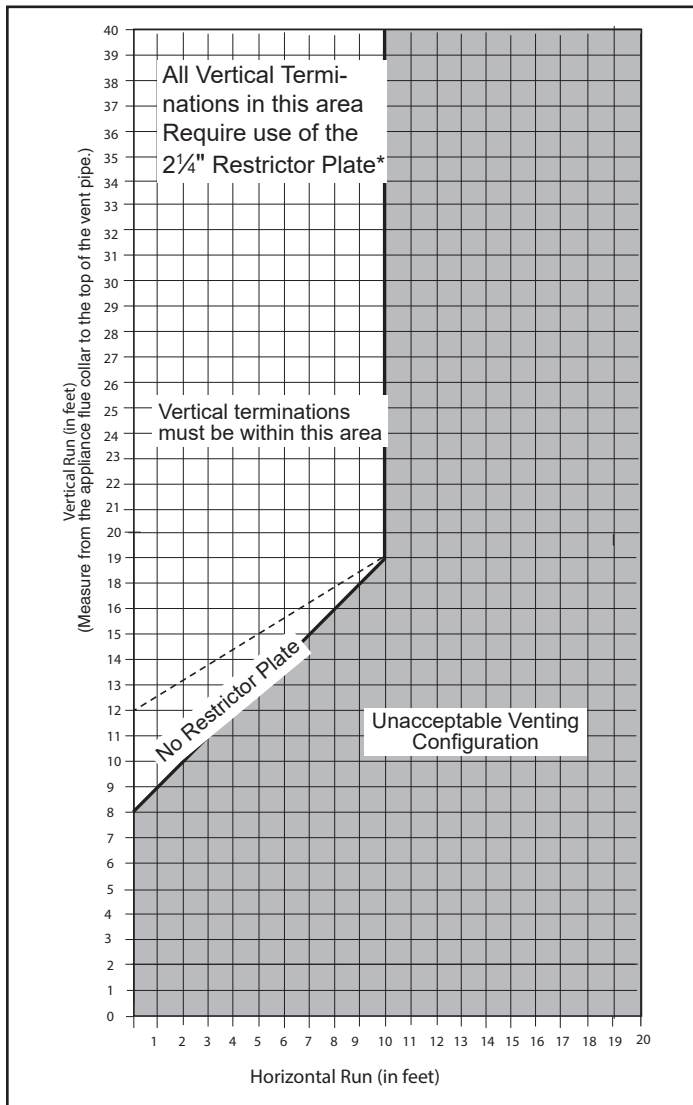
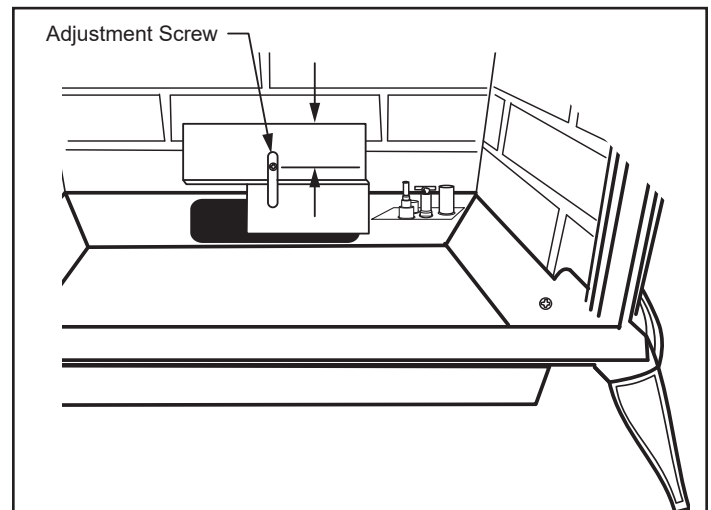
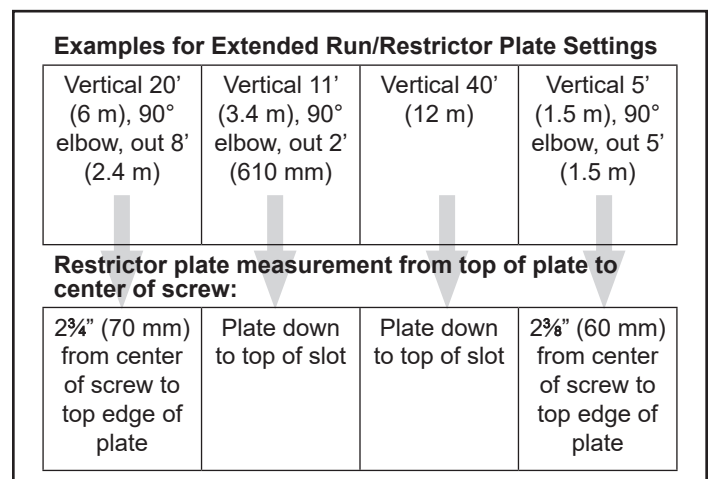

Figure 2.8 - Vertical vent termination window.
Figure 2.9 - Loosen screw to adjust restrictor plate.
Figure 2.10
A vertical vent system must terminate no less than 8' (2.44 m) and no more than 40' (12 m) above the appliance flue collar. (Refer to Figure 2.8) Adjust the restrictor plate according to recommendations in Figure 2.10. A vertically terminated vent system must also conform to the following criteria:
- Termination height must conform to roof clearance as specified in Figure 2.8.
The Oxford stove is shipped with a restrictor plate in the Parts Bag. Adjustments can be made by loosening the adjustment screw. (Figure 2.9) A guide for usage is shown in Figure 2.10.
- Install restrictor plate as shown in Figure 2.9 with cut out on left side. Secure with adjustment screw.
- Measure from center of screw to top edge of diverter (Figure 2.9) to adjust plate according to guidelines in Figure 2.10.